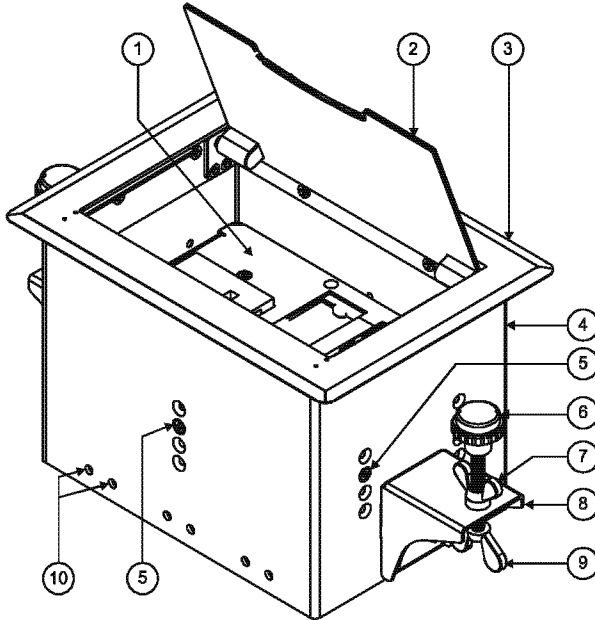

Figure 2: TBUS-1 Table Connection Bus Top View
Figure 2 and Table 1 define the TBUS-1 unit:
1. Remove the six height adjustment screws (two screws on each side and one screw on the front panel and one on the rear panel, as shown in *Figure 2*), while supporting the surface from underneath with your fingers.
2. Take the support brackets under the table and place them into the support bracket grooves on both sides of the unit (see *Figure 2*).